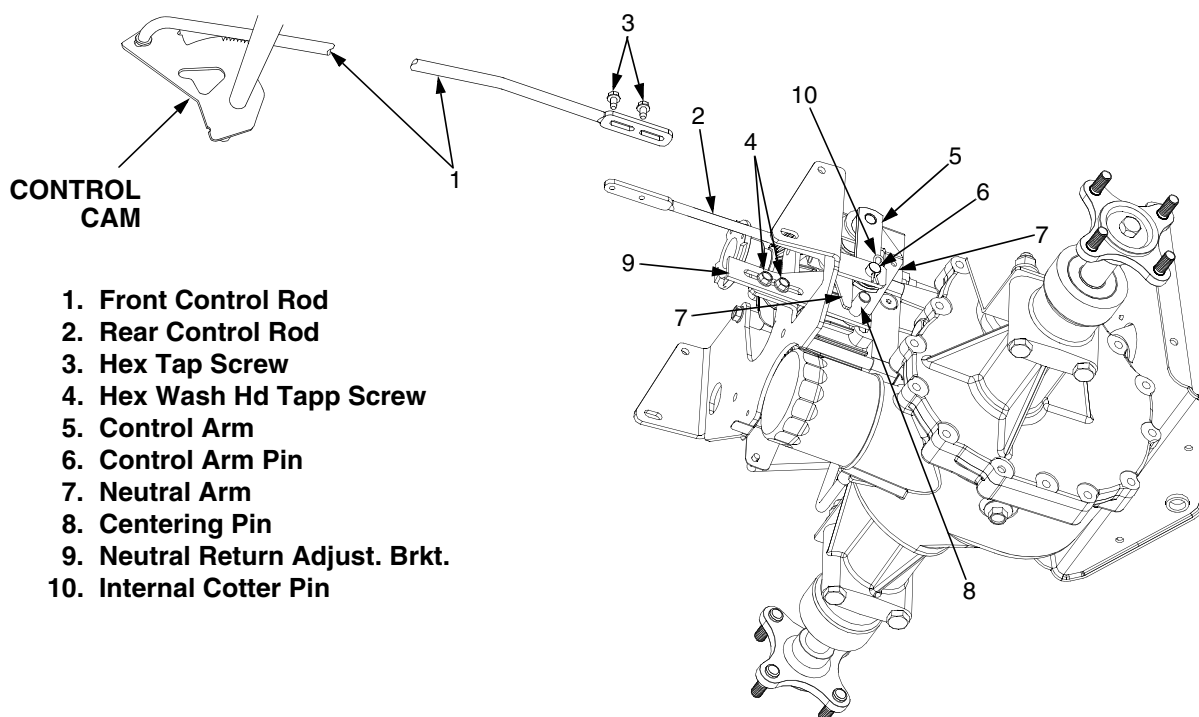

Figure 16
4. If wheel rotation is observed, refer to Figure 16 and adjust the neutral setting as follows:
- a. Disconnect the rear control rod (2) from the control arm (5) by removing the internal cotter pin (10) from the control arm pin (6).
- c. If wheel rotation continues, loosen the two hex washer head tapp screws (4) securing the neutral return adjustment bracket (9).
- d. If the rotation is in the *forward* direction, slide the neutral return adjustment bracket w/ centering pin (8) rearward until the wheels just begin to rotate in the *reverse* direction. Then slowly slide the neutral return adjustment bracket w/centering pin slightly forward until wheel rotation stops.
- f. Carefully tighten the hex wash. hd. tapp screws (4), making certain the neutral return adjustment bracket does not move.
After completing the previous steps (1 thru 4) for checking neutral setting, refer to Figure 16 and adjust the control rod as follows: